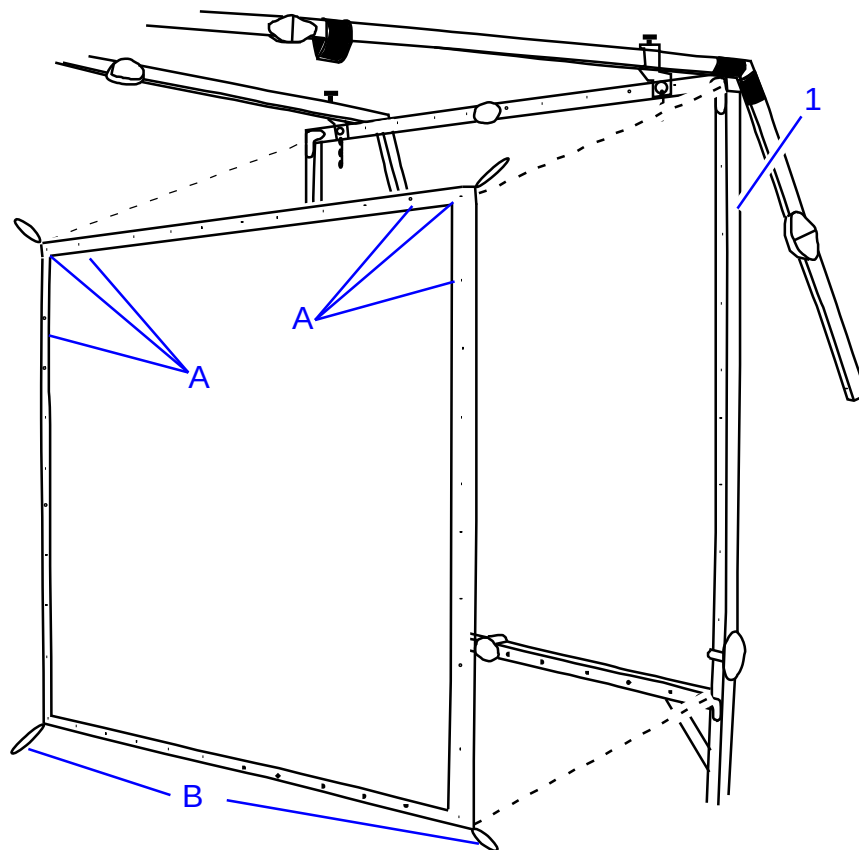

Figure 9. Attach Screen to Frame.
19. Starting at either upper screen corner, secure one upper corner snap (A) on the screen to the corresponding snap stud on the frame assembly (1) as shown in Figure 9.
20. Secure one snap (A) on either side of the upper corner snap to the corresponding snap studs on the frame assembly (1).
21. Place one thumb in one of the lower screen loops (B) and pull gently outwards.
22. Secure the lower corner snap on the screen (A) to the corresponding snap studs on the frame assembly (1).
23. Secure the opposite lower corner snap (A) on the screen to the corresponding snap on the frame assembly (1).
24. Secure the remaining snaps (A) to their corresponding snap studs on the frame assembly (1).